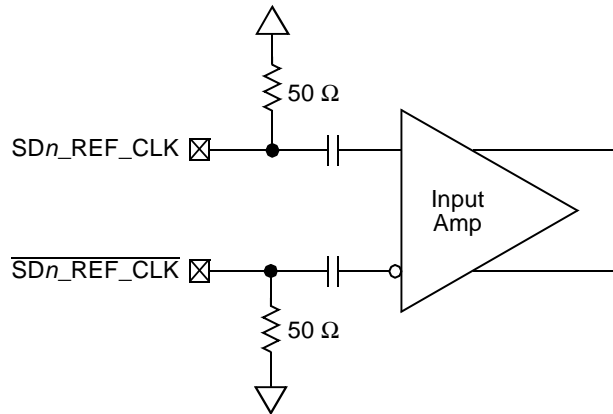

Figure 41. Receiver of SerDes Reference Clocks
Figure 41 shows a receiver reference diagram of the SerDes reference clocks.
- The  $\text{SD}_n\text{\_REF\_CLK}$  and  $\overline{\text{SD}_n\text{\_REF\_CLK}}$  are internally AC-coupled differential inputs as shown in Figure 41. Each differential clock input ( $\text{SD}_n\text{\_REF\_CLK}$  or  $\overline{\text{SD}_n\text{\_REF\_CLK}}$ ) has a 50- $\Omega$  termination to  $\text{SGND\_SRDS}_n$  (xcorevss) followed by on-chip AC-coupling.